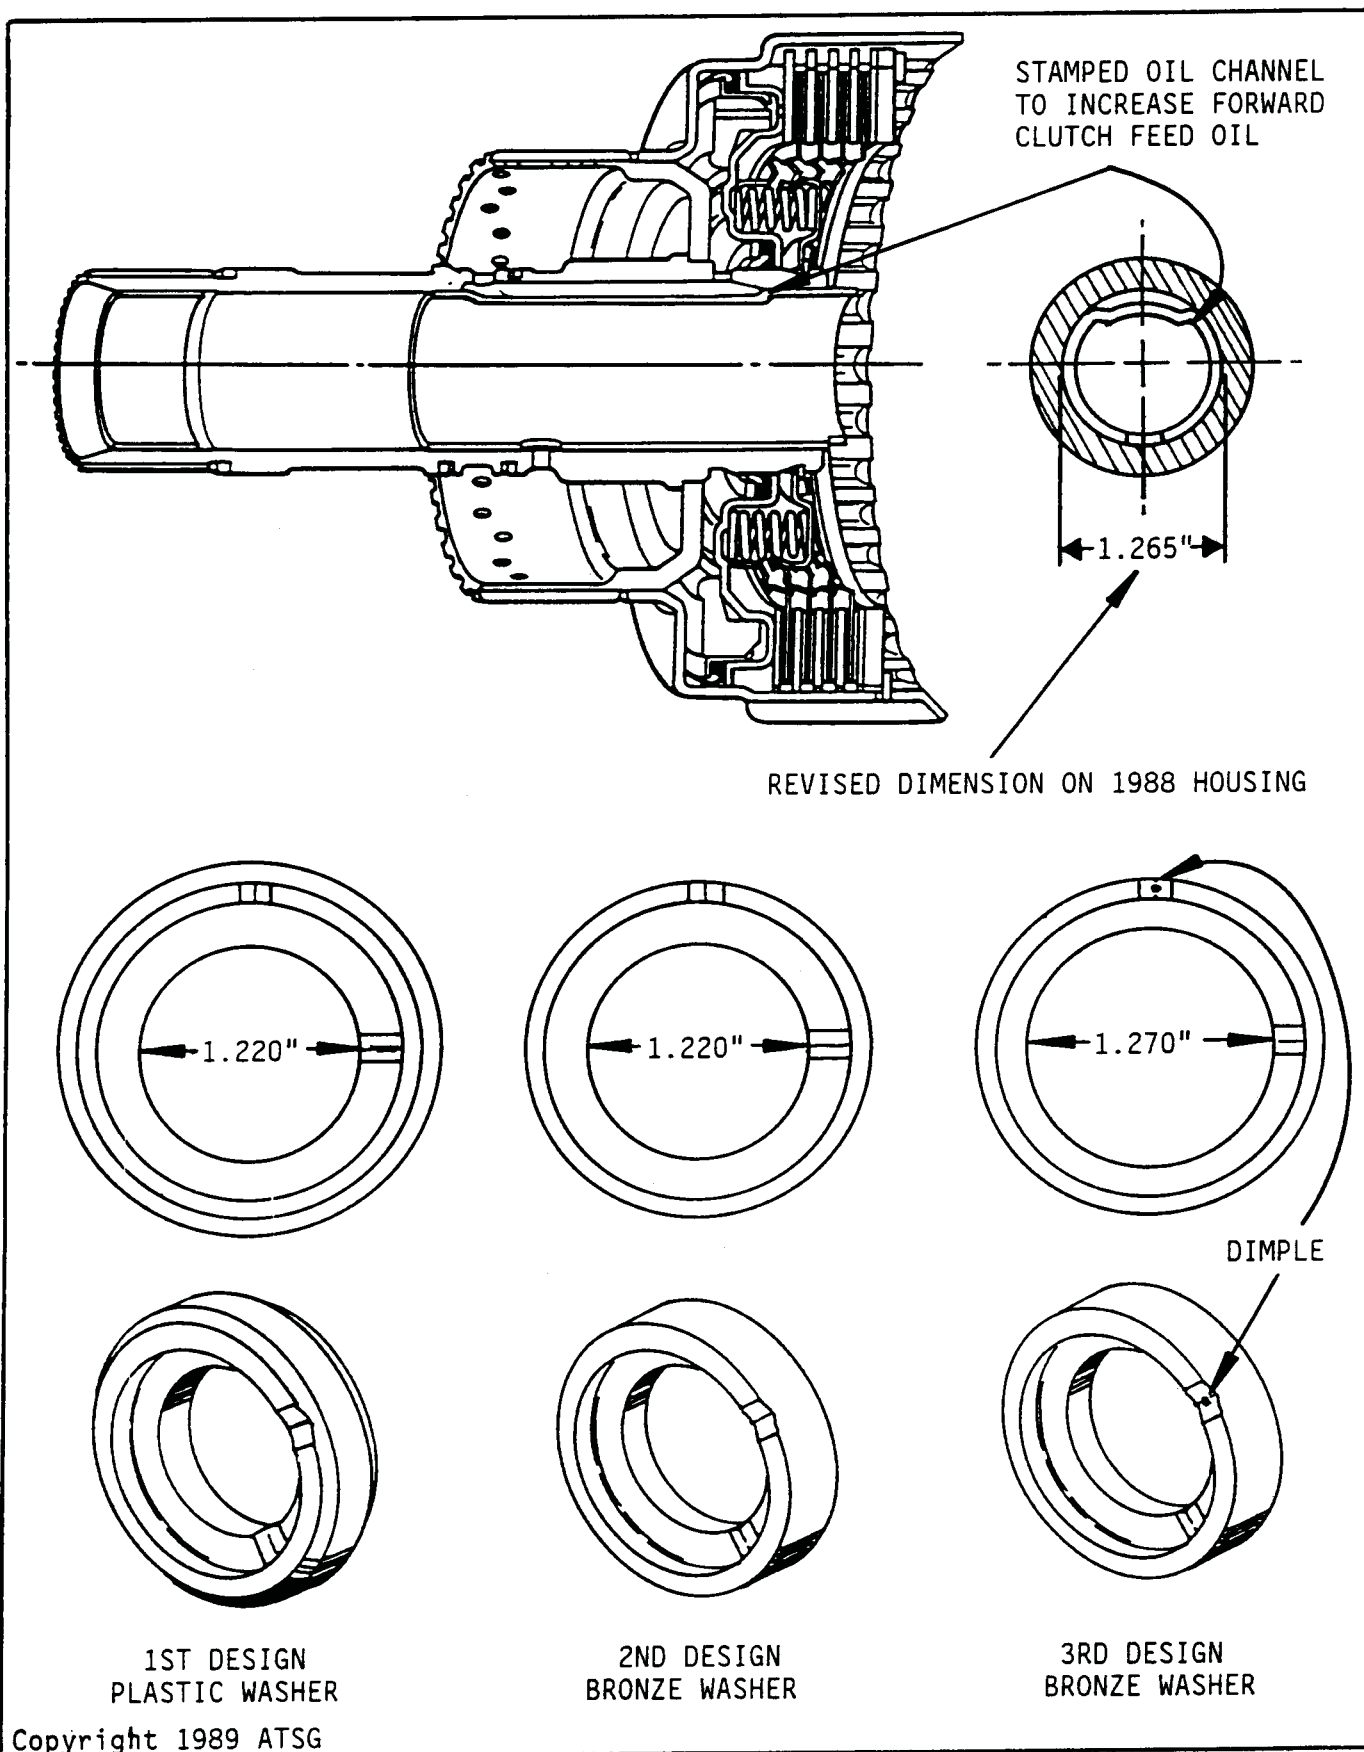

Figure 78
REASON: The new housing contains a new stamped channel which increases forward clutch feed oil, providing a quicker neutral to drive engagement. (See Figure 78).
- (1) FORWARD CLUTCH HOUSING - Contains a stamped channel which increases the flow of forward clutch feed oil, and there is a revised dimension where the bronze washer is located (See Figure 78).
- (2) BRONZE THRUST WASHER - Revised dimension on the inside diameter of washer to fit the new clutch housing, and identified with a dimple stamped on both sides of the washer (See Figure 78).